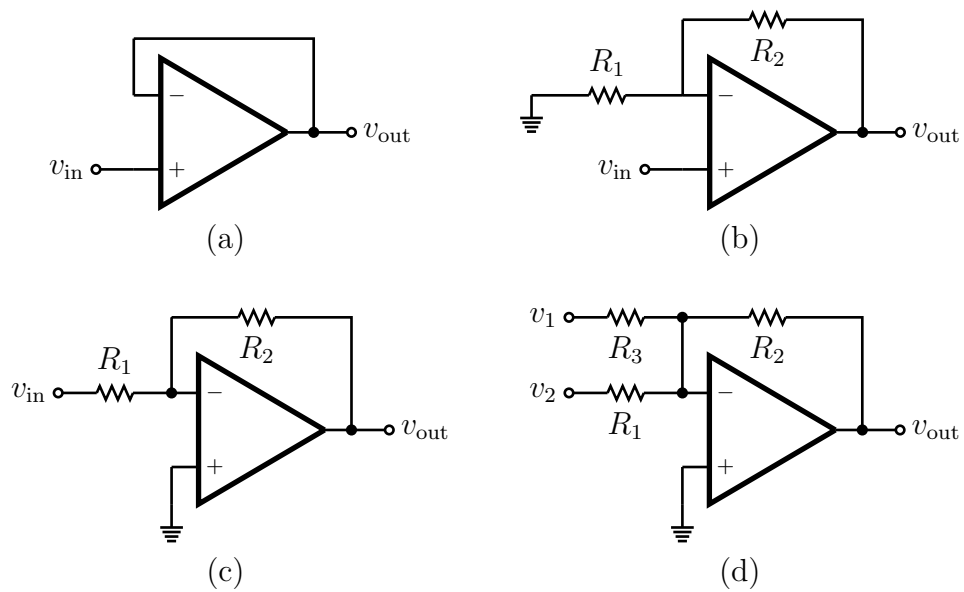

Figure 3: Common Op-Amp circuits: (a) Follower, (b) Non-Inverting Amplifier, (c) Inverting Amplifier, and (d) Adder.
- 1) Calculate the gain for all four circuits in Fig. 3.
In this section you will build the four common op-amp circuits shown in Fig. 3 using a single LM741 op-amp. In all four circuits use  $R_1 = 22 \text{ k}\Omega$ ,  $R_2 = 220 \text{ k}\Omega$ ,  $R_3 = 22 \text{ k}\Omega$  wherever they appear. The power supply connections are not shown, but should be provided using both channels of your bench-top DC supply as  $V_+ = +10 \text{ V}$  and  $V_- = -10 \text{ V}$ .